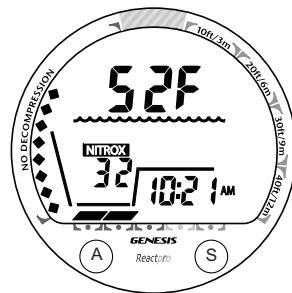

Fig. 36 - No Deco ALT 2
No Deco ALT 2 (Fig. 36)
- > press/release the A (left) button again to access the ALT 2 screen (similar to Fig. 36)